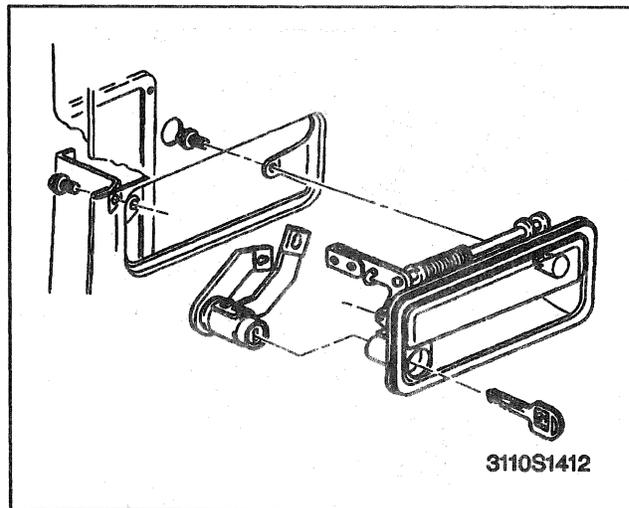

Figure 89—Rear Cargo Door Outside Handle and Lock Assembly
Remove or Disconnect (Figure 89)
Install or Connect (Figure 89)
4. Outside handle rod from the rod clip (Figure 89).
5. Lock cylinder rod from the rod clip (Figure 89).